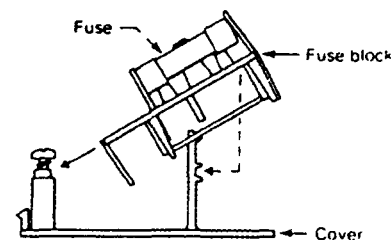

Figure 2.5 - North American to European fuse conversion
**NOTE:** Refer to Figure 2.5 below for details.